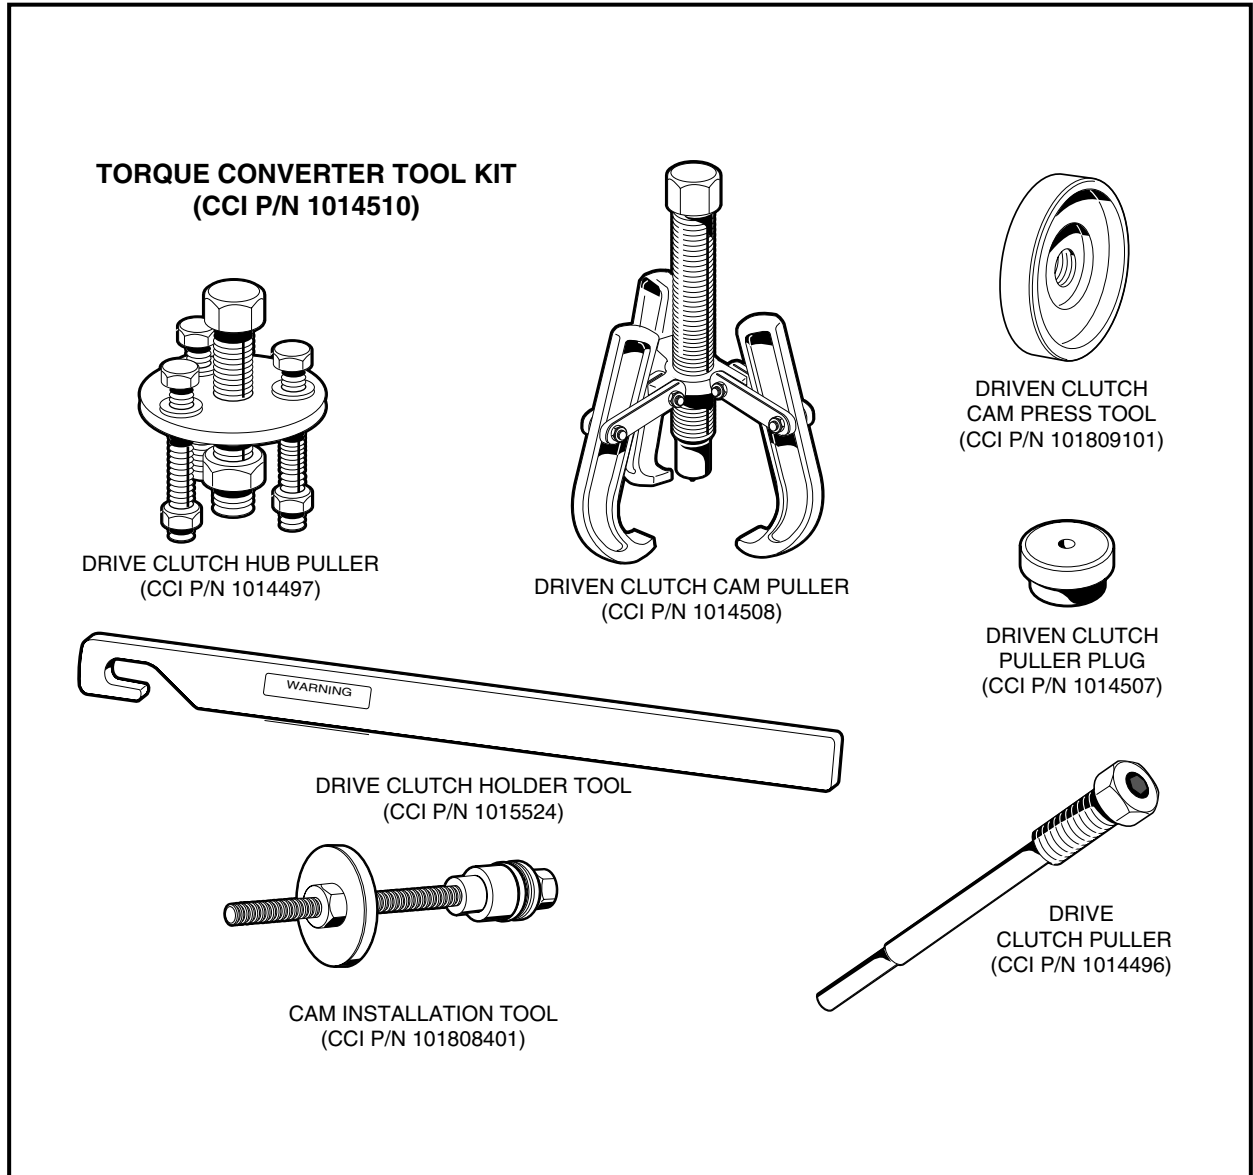

Figure 17-1 Torque Converter Tool Kit
- Torque Converter Tool Kit (CCI P/N 1014510) (**Figure 17-1, Page 17-3**)